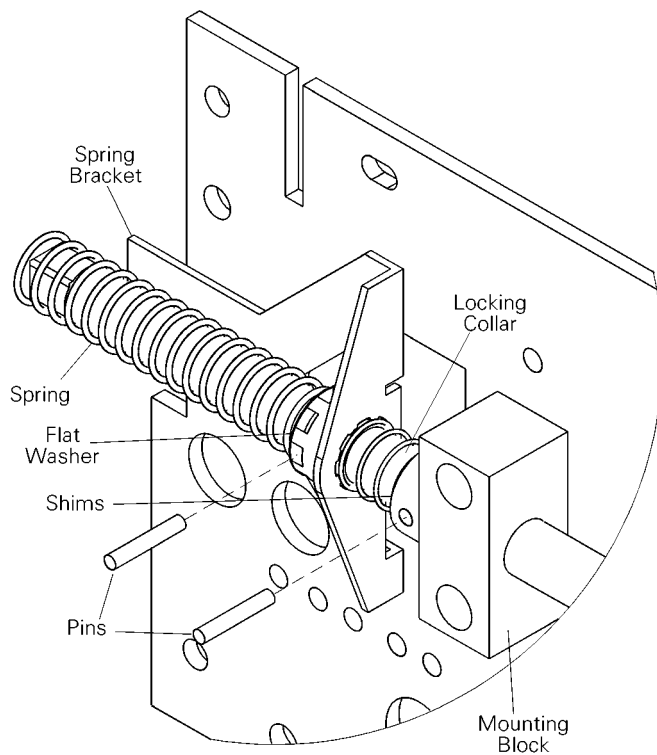

Figure 7-13. Exploded view of racking shaft assembly/disassembly.
3. Remove the two pins, shown in Figure 7-13, attaching the locking collar and the spring bracket to the drive shaft.